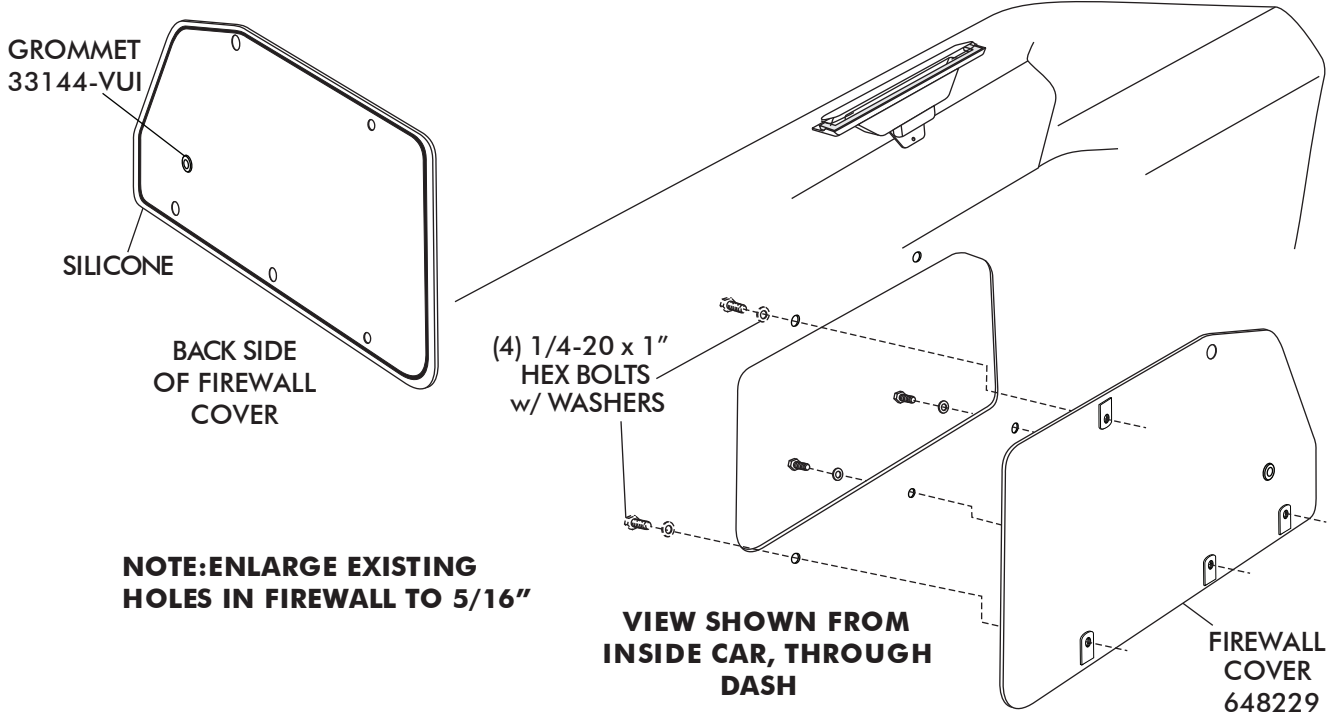

FIGURE 8
- ☐ INSTALL GROMMET IN FIREWALL COVER AS SHOWN IN FIGURE 8, BELOW
- ☐ SECURE FIREWALL COVER TO FIREWALL USING (3) 1/4-20 x 1" HEX BOLTS w/ FLAT WASHERS.